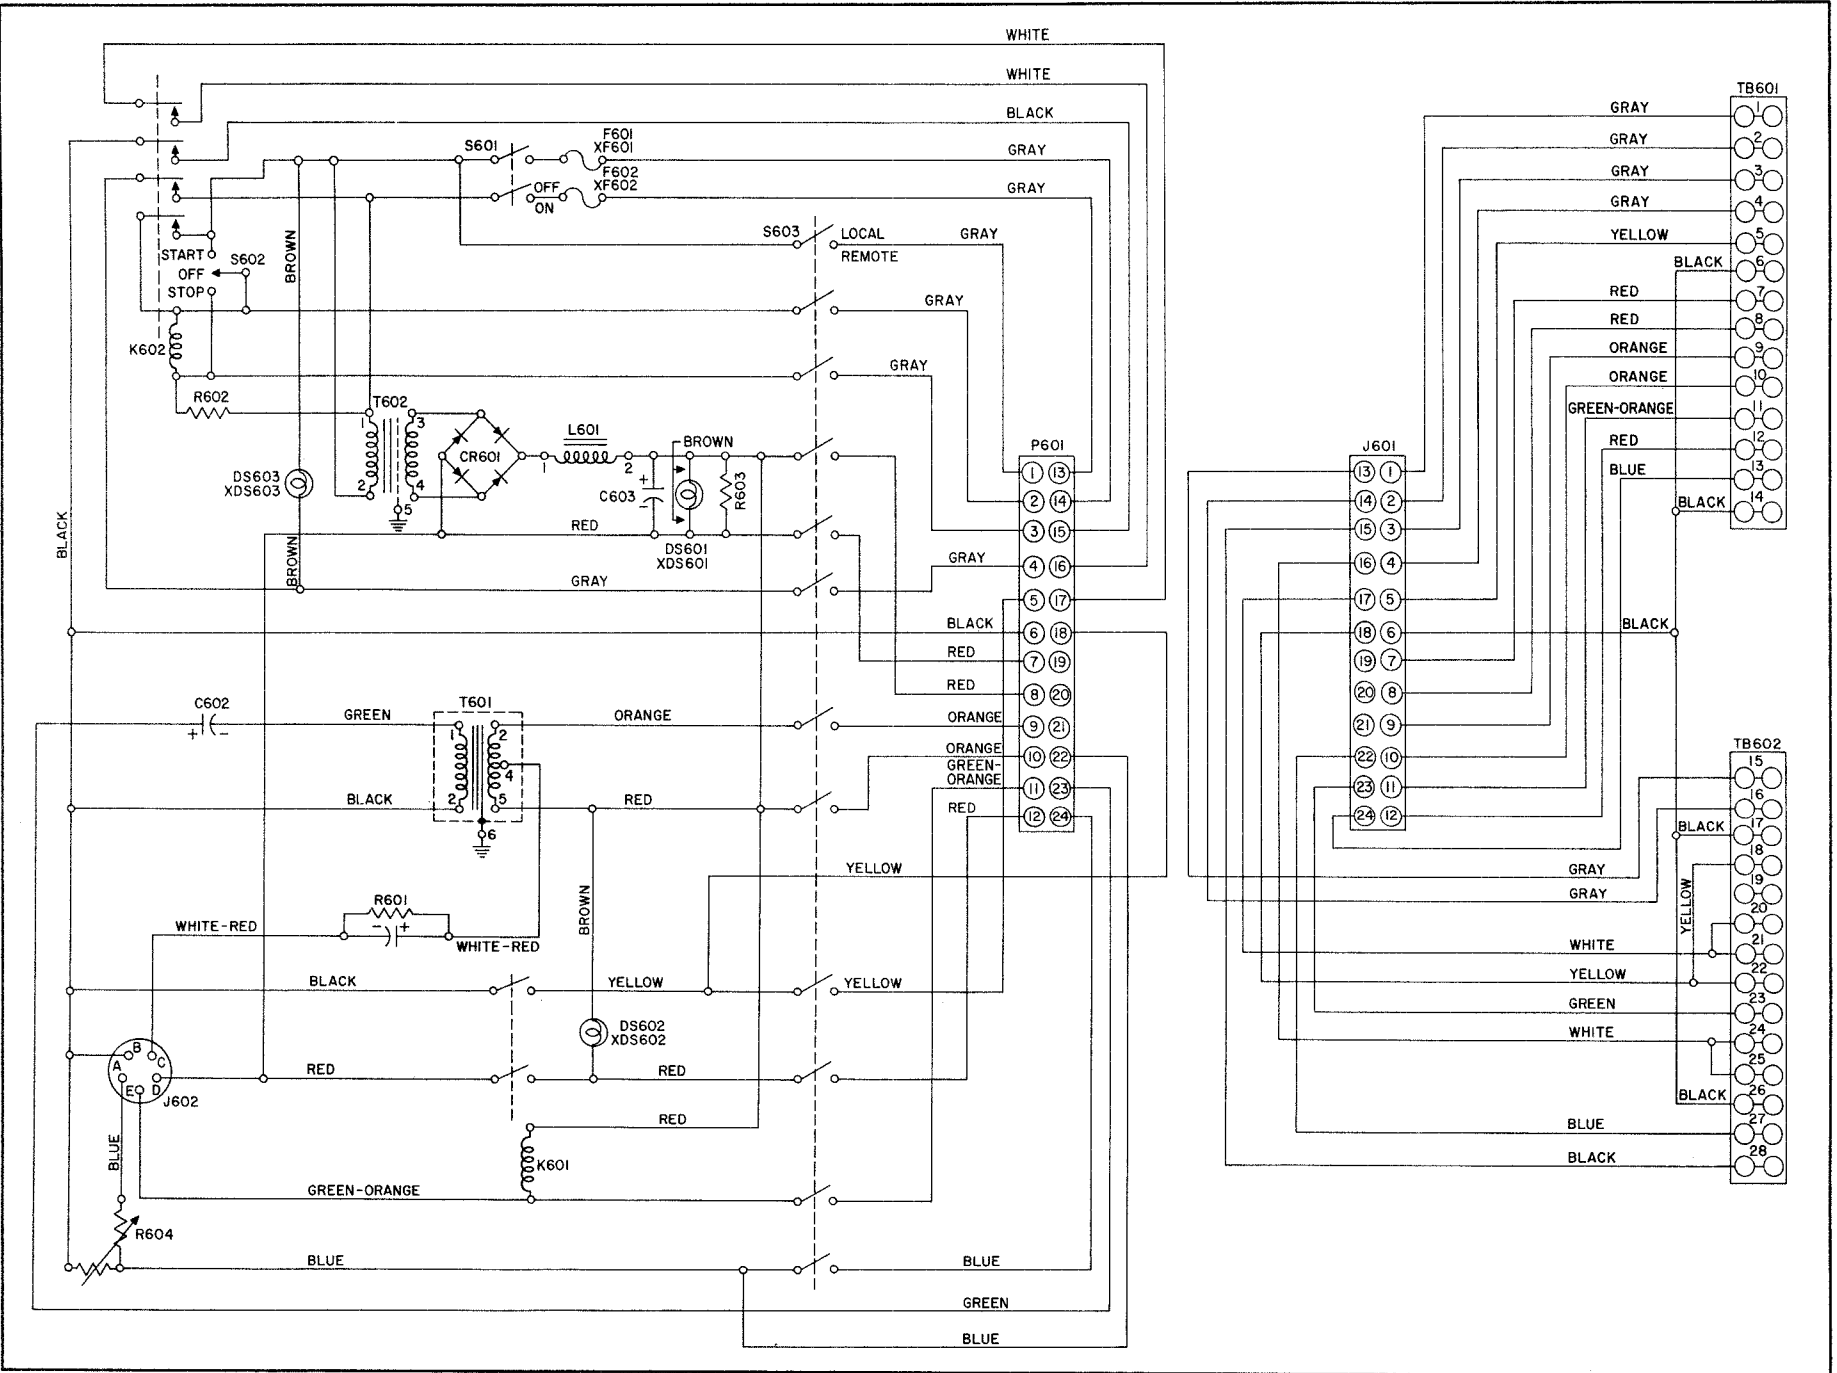
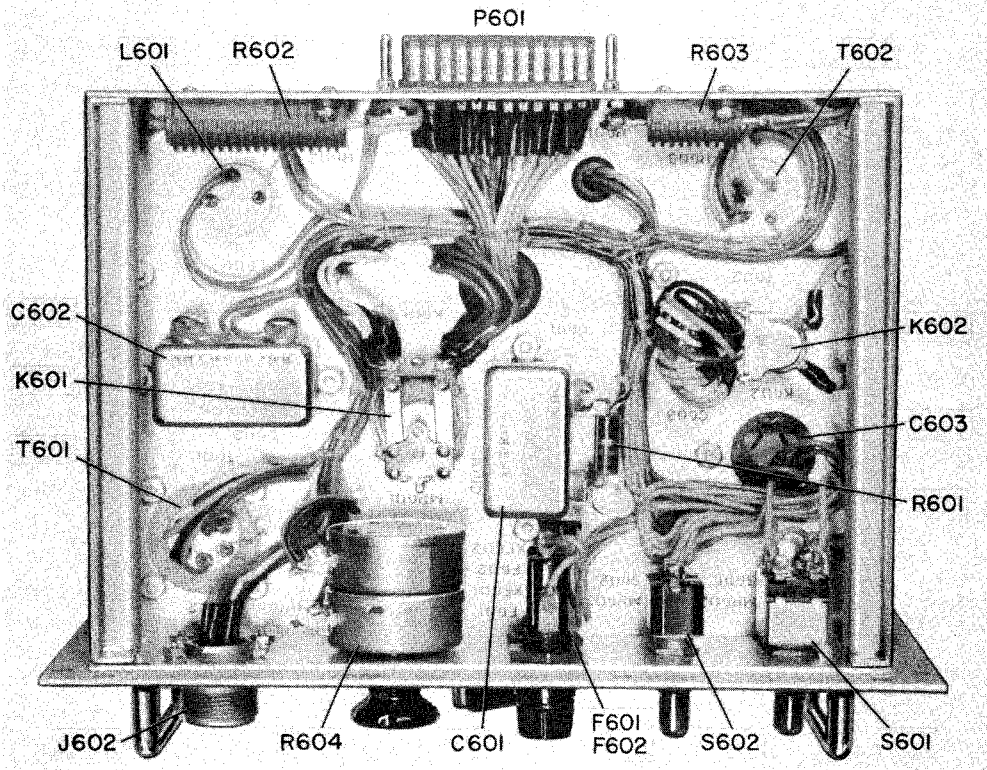

Figure 4-2. Adapter, Control MX-1743A/SRC Schematic Wiring Diagram
Figure 5-1. Adapter, Control, Panel and Chassis Assembly, Top View
Removal of the chassis and panel can be accomplished by removing the fourteen (14) screws from the front panel and slide the panel forward. Tracing the circuit by means of the Schematic Wiring Diagram, Figure 4-2, and pictorial diagrams of the chassis, Figures 5-1 and 5-2, will enable the proper location of the defective component part.